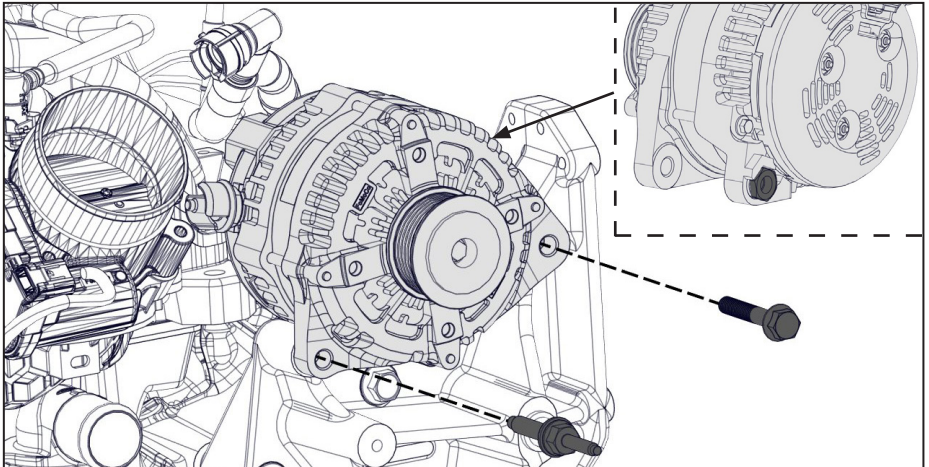

Figure 6 — Install alternator
- Press the captive nut and bushing on the rear of the alternator back to prevent interference with the bracket (Figure 6).
- Using the OEM fasteners, install the primary alternator onto the main bracket (Figure 6).